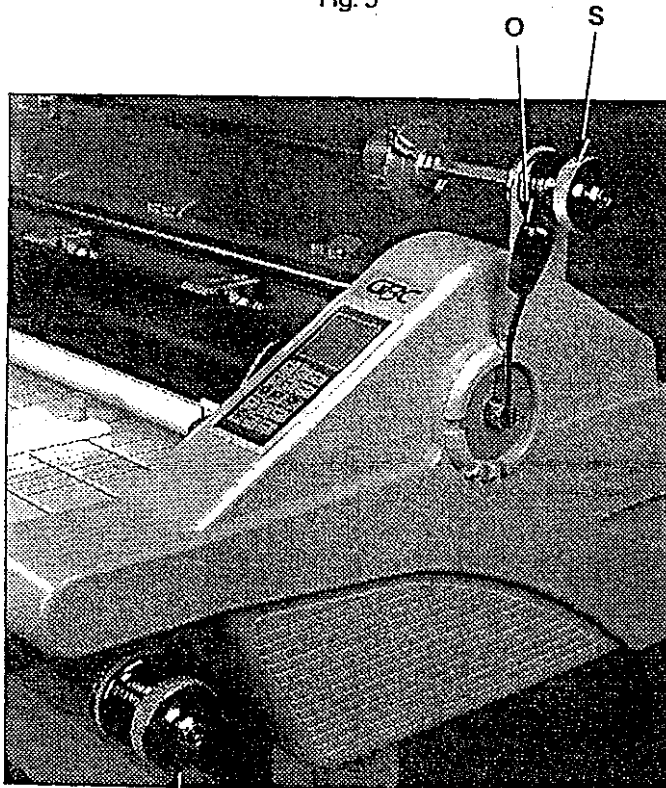

Fig. 6
HANDLE: Figure 6. Adjusts the amount of roller pressure needed for various laminating thickness. There are four thickness settings:
S. FILM TENSION ADJUSTMENT: Allows the operator to increase or decrease film web tension as needed to reduce curl and wrinkles, (Figure 6).
S. REGOLAZIONE TENSIONE FILM: Consente all'operatore di aumentare o diminuire la tensione del film per ridurre accartocciamenti e corrugamenti, (Figure 6).